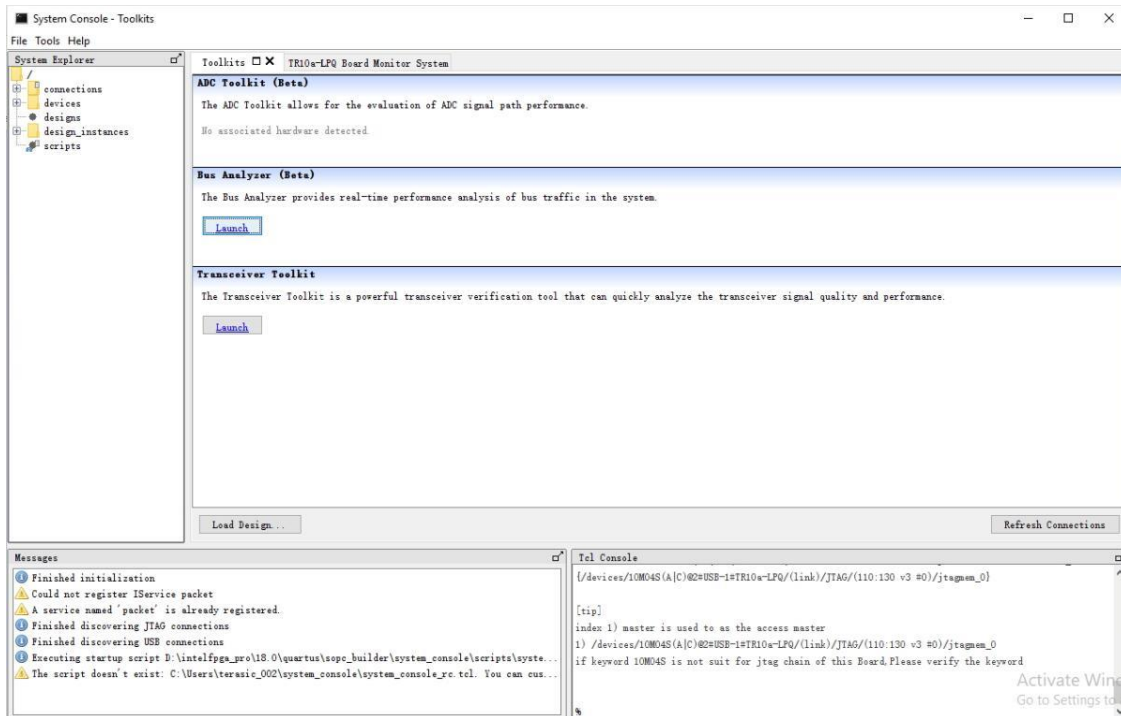

Figure 8-2 System Console Window
3. Execute the Dashboard GUI application on the host PC, execute the test.bat in the System Console folder of the TR10a-LPQ System CD. As shown in **Figure 8-2**, the